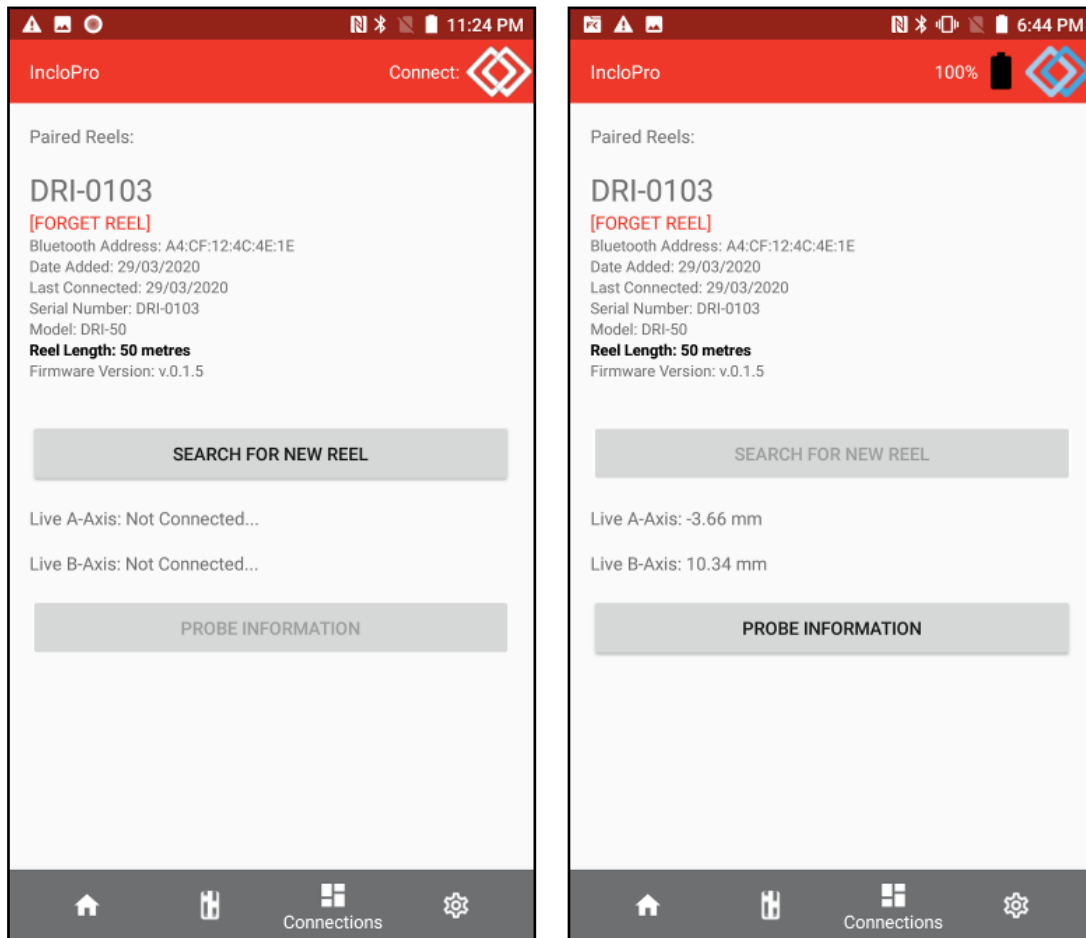

Figure 16: Paired Reels Screen
- 12) When using the App for the first time, it will be necessary to search for the Reel to carry out this pairing operation. Once paired, the ASD memorises the configuration. (Figure 16: Paired Reels Screen)
In addition, Live probe readings are shown on the screen, above the PROBE INFORMATION bar. (Figure 16: Paired Reels Screen)